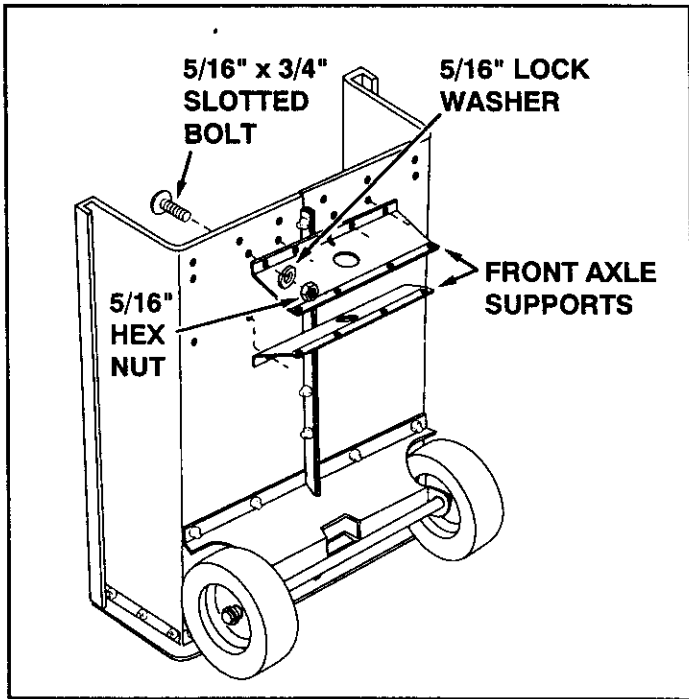
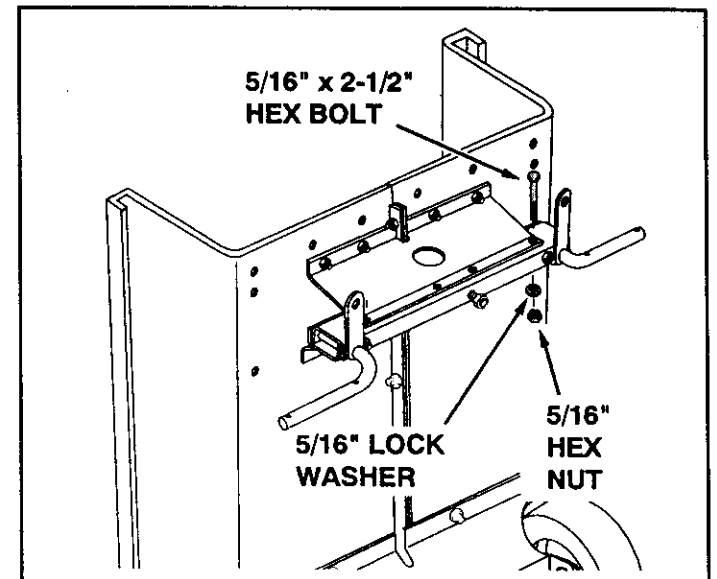

FIGURE 5
FIGURE 8
- Assemble the two front axle supports to the cart using eight 5/16" x 3/4" slotted bolts, 5/16" lock washers and 5/16" hex nuts as shown in figure 5. **Do not tighten yet.**
- Place the front axle channels between the front axle supports. Assemble two 5/16" x 2-1/2" hex bolts through the holes in the ends of the supports and secure with 5/16" lock washers and 5/16" hex nuts. **Do not tighten.** See figure 8.
- Make sure the center bolt (pivot bolt) is inserted as far as possible through the axle channels and then **tighten** the four bolts assembled in figures 8 and 9. Next, **tighten** the eight bolts assembled in figure 5, which fasten the front axle supports to the cart bed.